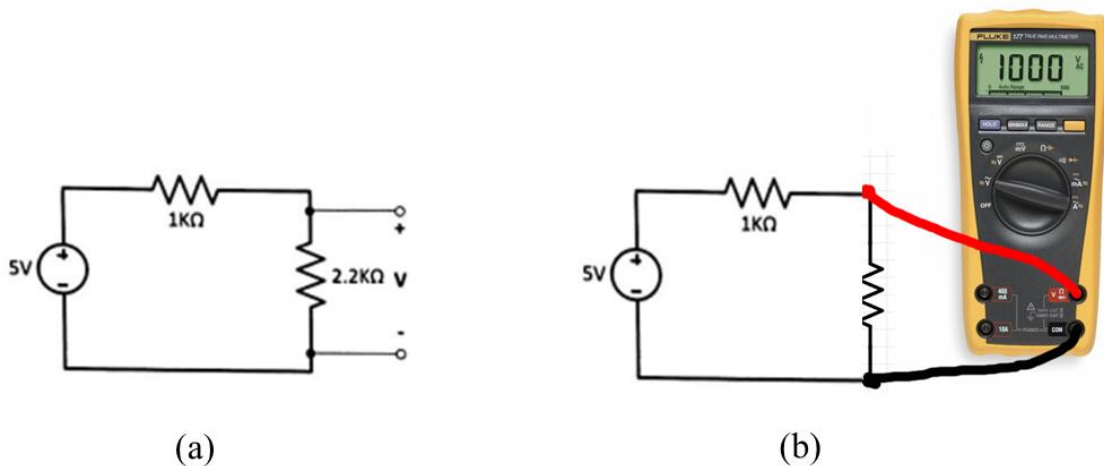

Figure 2: Circuit Diagram and actual connection for measuring voltage.
1. To measure the voltage across the $2.2\text{ k}\Omega$ resistor circuit in Fig 2 (a), construct the circuit as shown in Fig. 2 (b).
3. Connect the red and black multimeter lead as shown in the Fig. 2 (**parallel to the resistor**)